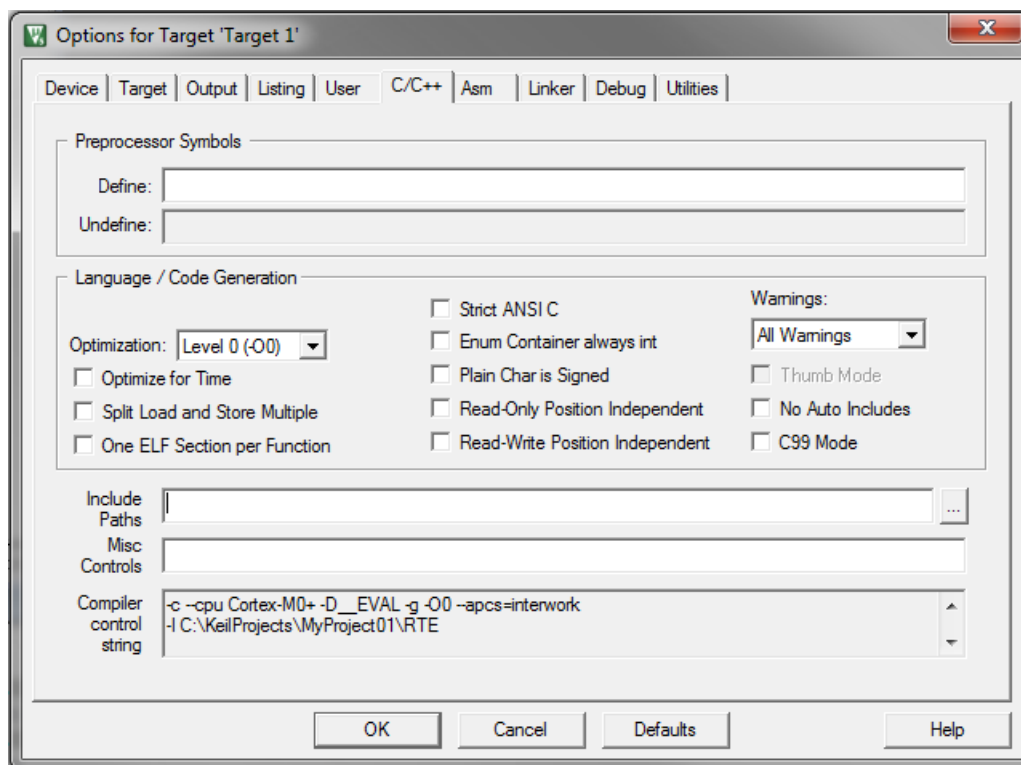

Figure 1-25. Library path addition
2. Select the C/C++ tab. See Figure 1-25.